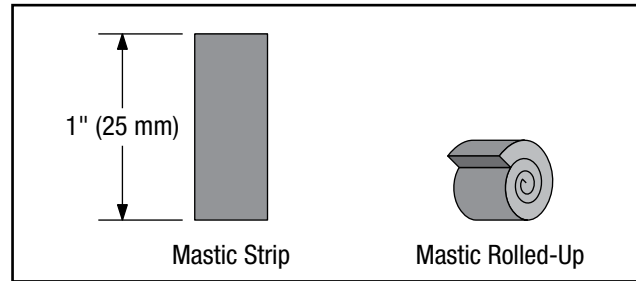
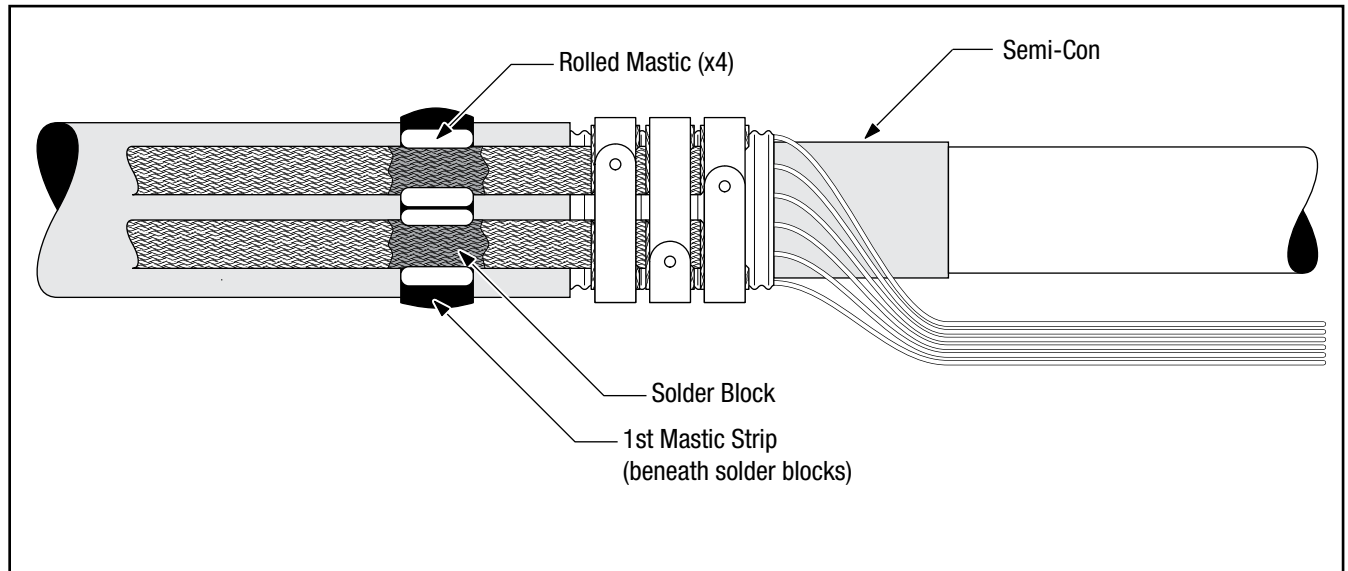

Figure 6
Figure 7
- 2.5 Cut four 1" (25 mm) lengths of 1" (25 mm) wide 3M™ Scotch-Seal™ Mastic Tape 2229. Remove the release liner and roll each mastic strip into a small roll. (*Figure 6*) Press the mastic rolls into place on either side of the ground braid solder blocks. (*Figure 7*)